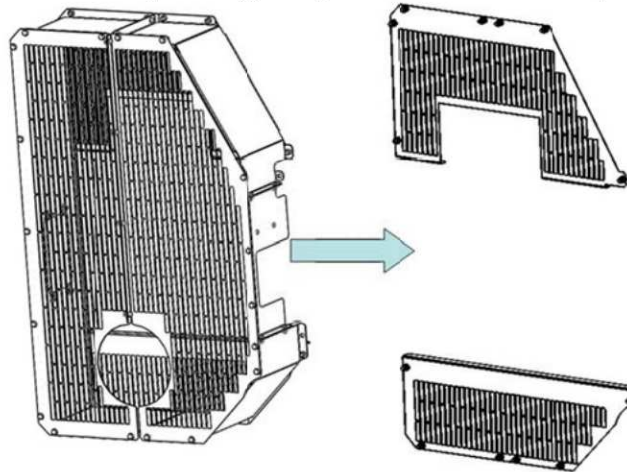

Figure 9: Guard parts to remove
- Remove front and side belt guard components. Refer to **Figure 9** below.